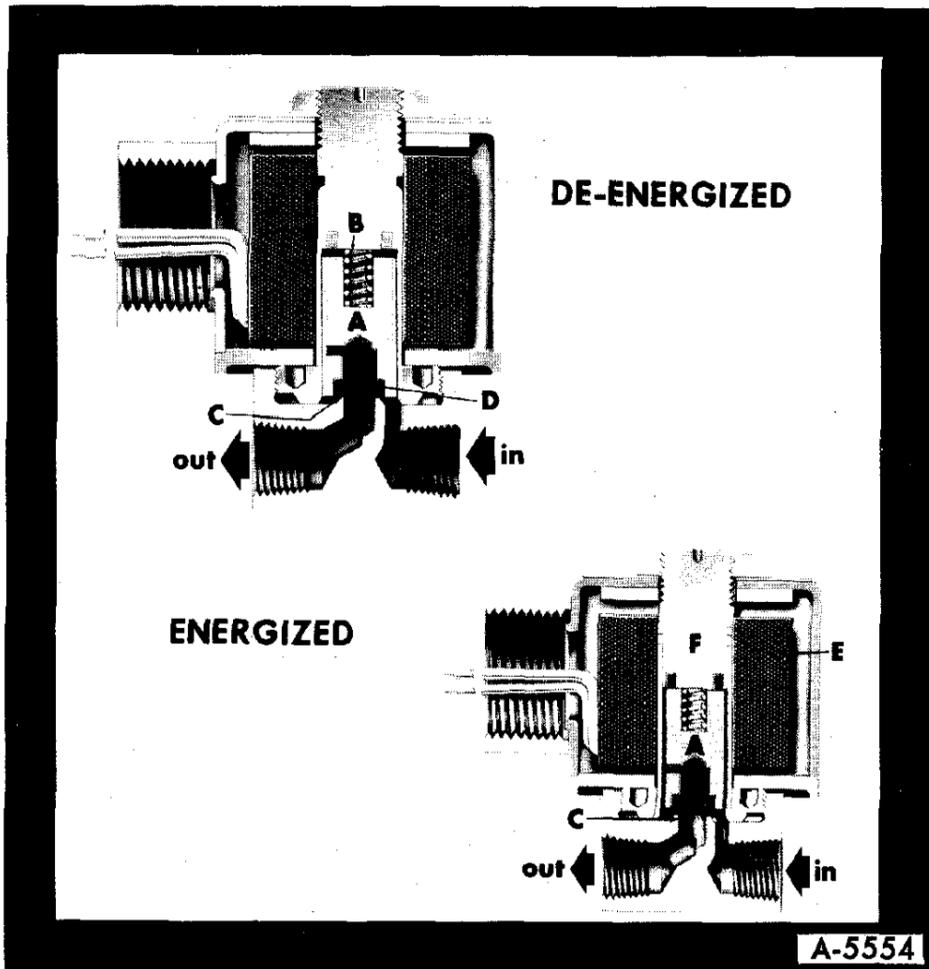

Figure 10—Two-Way Normally Closed Solenoid Valve
**TWO-WAY NORMALLY CLOSED SOLENOID VALVE**—a valve in which the single orifice is closed in the de-energized position and no flow can exist between the inlet and the outlet ports (figure 10).